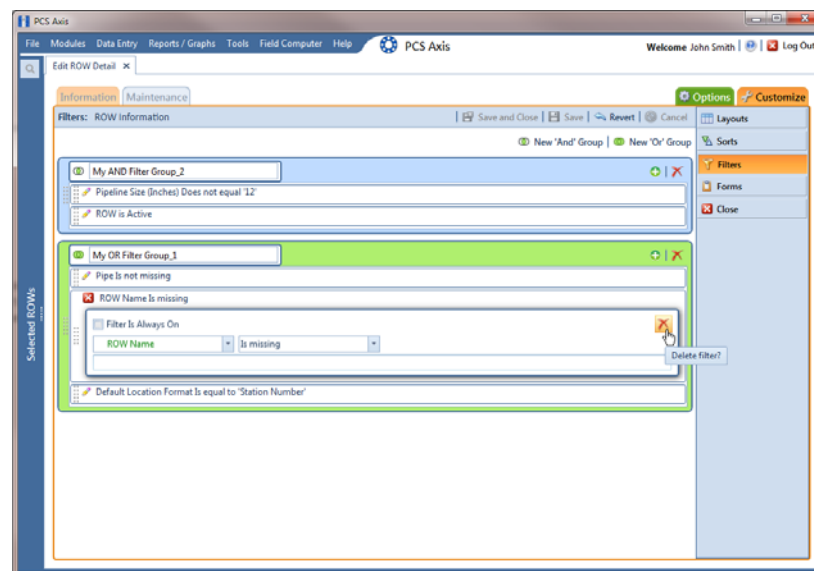

Figure 3-34. Filters
- 6 To delete a filter in a filter group, click the filter's  delete button (Figure 3-34). Then click  **Yes** when the *Delete* message displays.